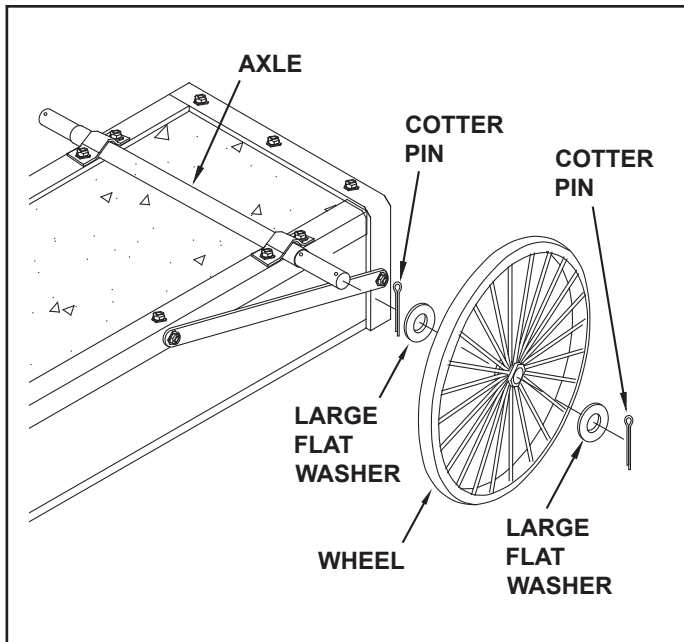

FIGURE 12
23. Slide the axle through the axle clamps. See figure 12.
24. Assemble a cotter pin to the inner hole at one end of the axle. Place a large flat washer, a wheel and then another large flat washer onto the axle. Secure the wheel with a cotter pin assembled to the outer hole at the end of the axle. Repeat step for other wheel. See figure 12.